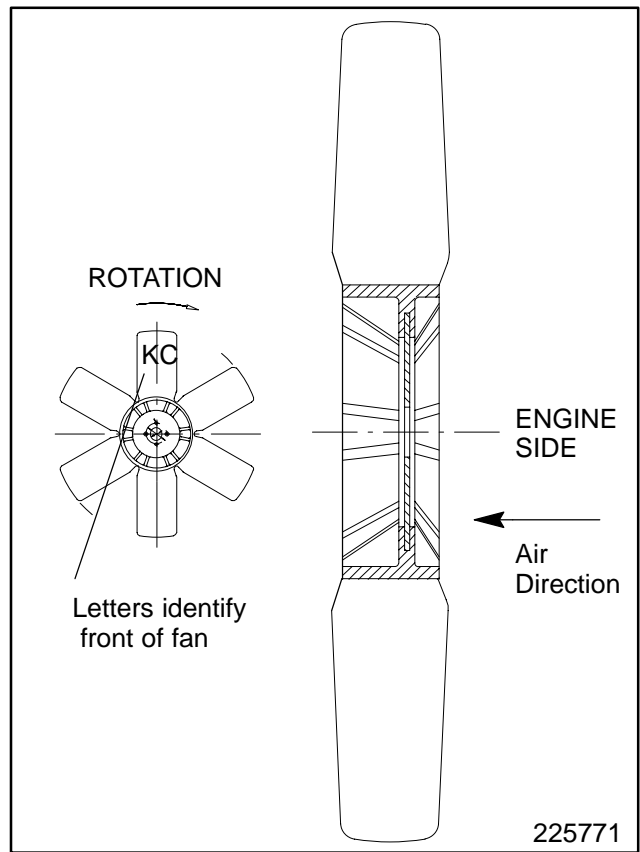

Figure 2. Proper Fan Installation
13. Place the new fan on the water pump pulley and tighten the four bolts that hold it in place. Be sure the fan is mounted in the correct direction. See Figure 2.